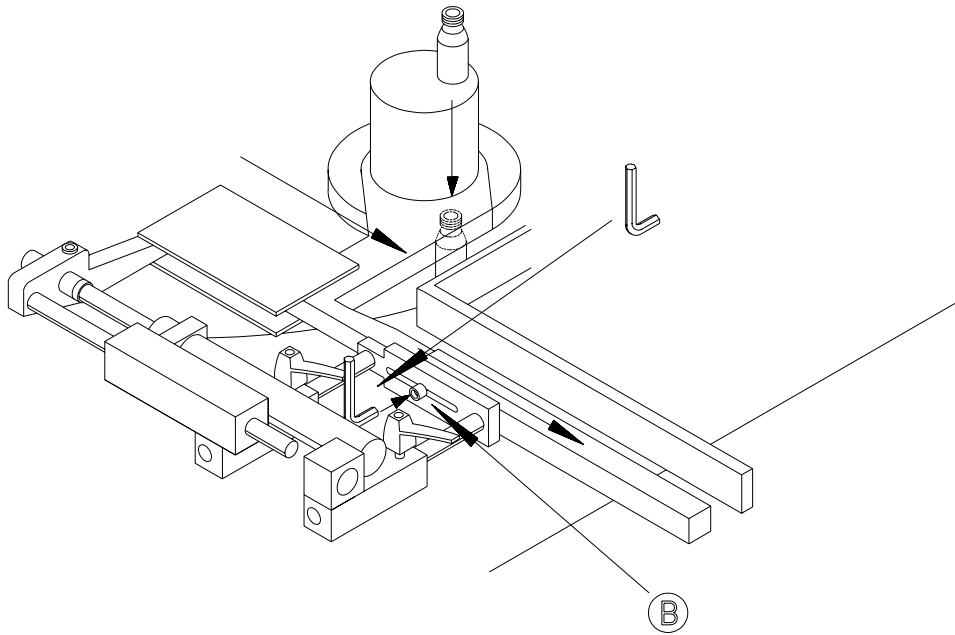

Fig. 7
Place two bottles at each end of the bottle sluice and adjust the guide rail at a distance of about 1 mm to the bottles. Tighten the Allen screw (A) Fig. 7. Check that all bottles run freely in the bottle inlet sluice.